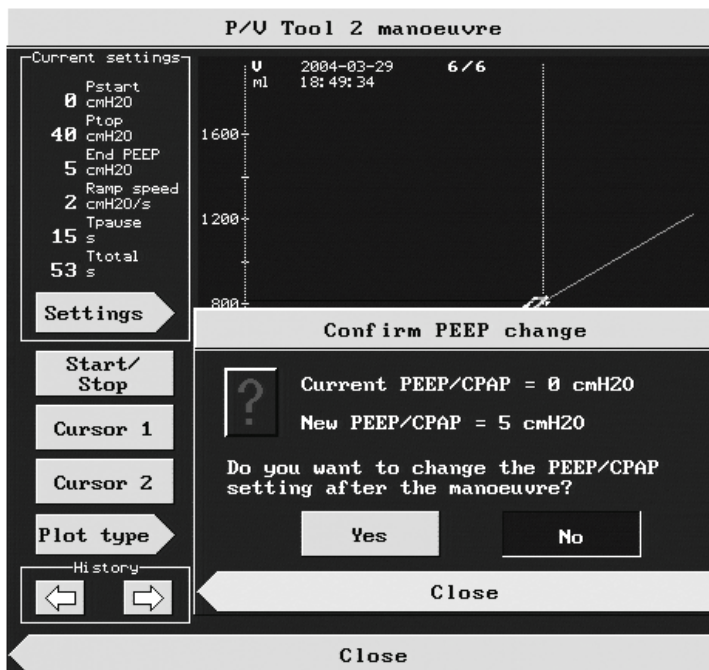

Figure 7-8. Confirm PEEP change window
If you set **End PEEP** to a value different from the current PEEP/CPAP, you will see a confirmation window (Figure 7-8). Select **No** if you don't want to change PEEP/CPAP after the maneuver. Select **Yes** if you do want to change PEEP/CPAP from its current level to the **End PEEP** level. **Close** the **Confirm PEEP change** window to confirm.
4. You will see the **Confirm PEEP change** window (Figure 7-8). Select **No**, then **Close** the window.